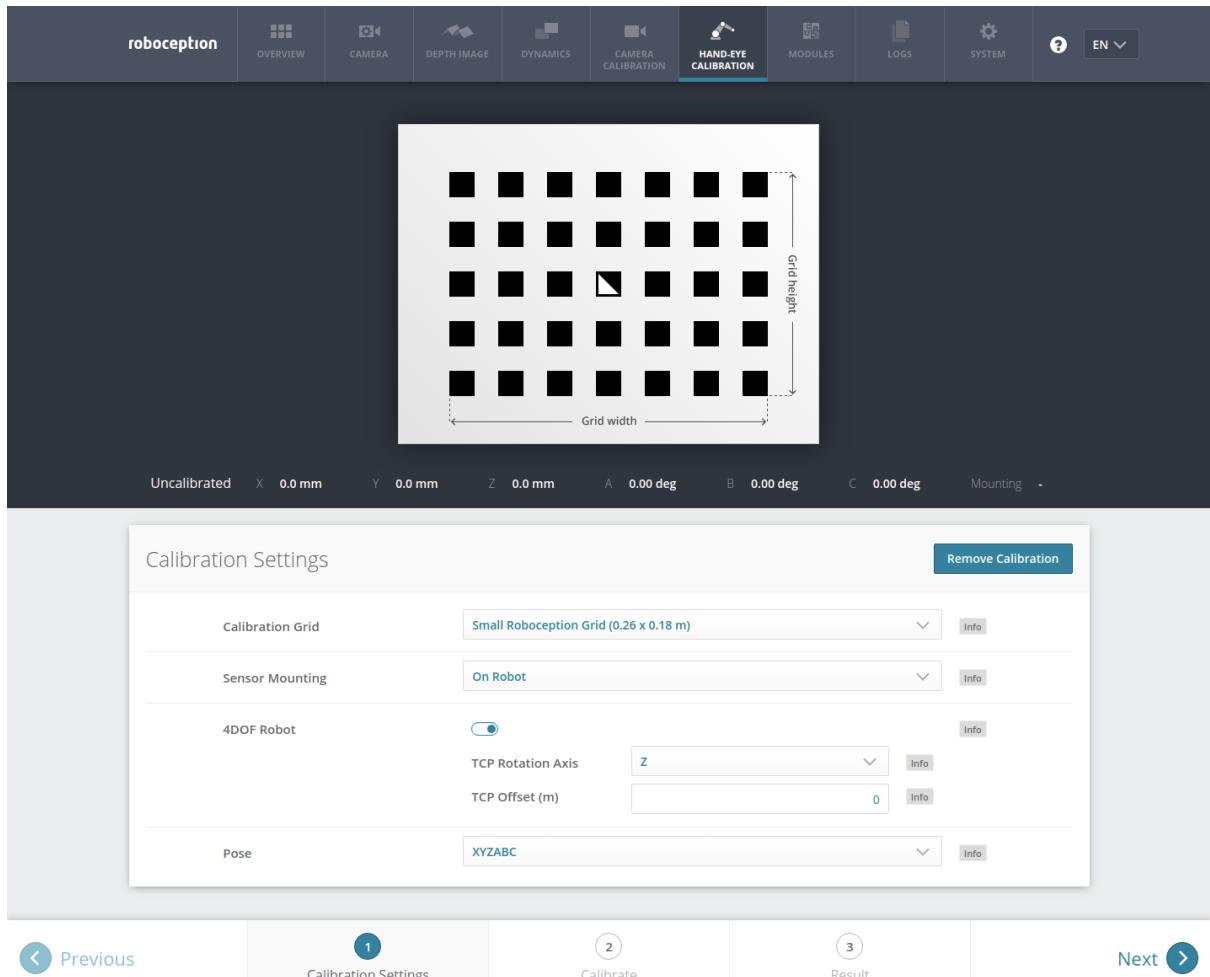

Fig. 6.22: Defining hand-eye calibration settings via the *rc\_visard*'s Web GUI
**Web GUI example:** The Web GUI offers an interface for entering these parameters during the first step of the calibration routine as shown in Fig. 6.22. In addition to grid size and camera mounting, the Web GUI also